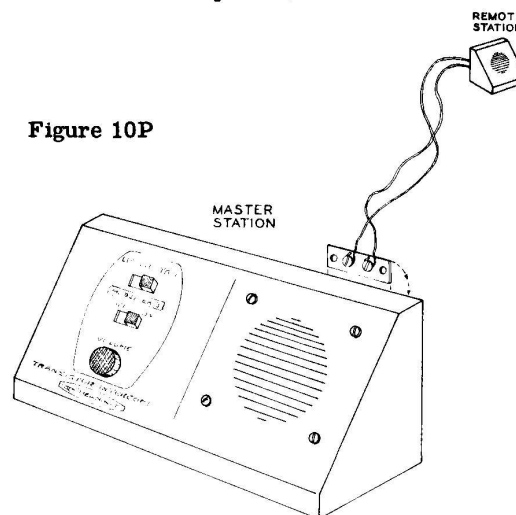

Figure 10P
- ( ) Connect the remote station to the master station as shown in Figure 10P with two short lengths of wire.